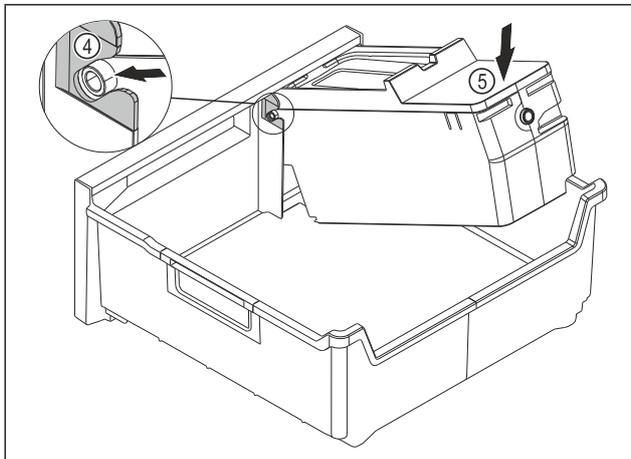

Fig. 187
- ▶ Installing the EasyTwist-Ice body: Insert the axes of the EasyTwist-Ice body into the guides Fig. 187 (4).
- ▶ Press down the EasyTwist-Ice body Fig. 187 (5) at the rear.